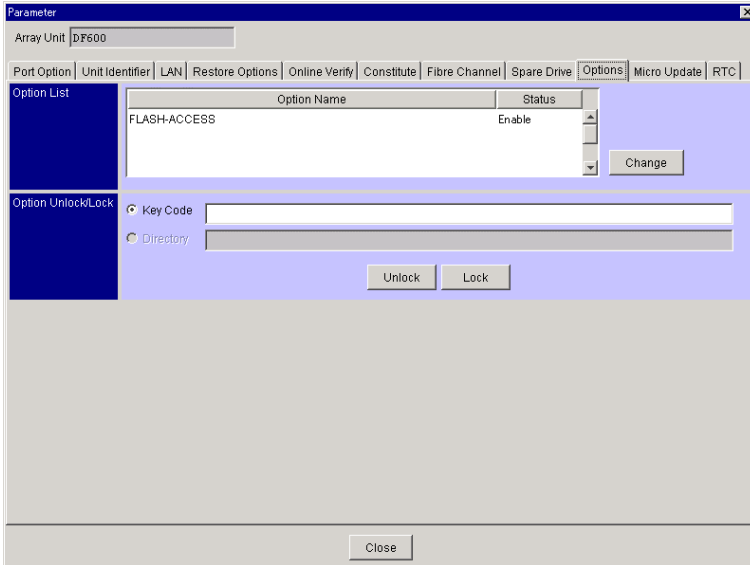

Figure 3.5 Parameter Panel (Options tab: FlashAccess Enable)
When a restart is not in process, this set-up optional feature will be updated and displayed (see Figure 3.5).
4. On the resulting Parameter panel, click the **Options** tab (refer to Figure 3.5).